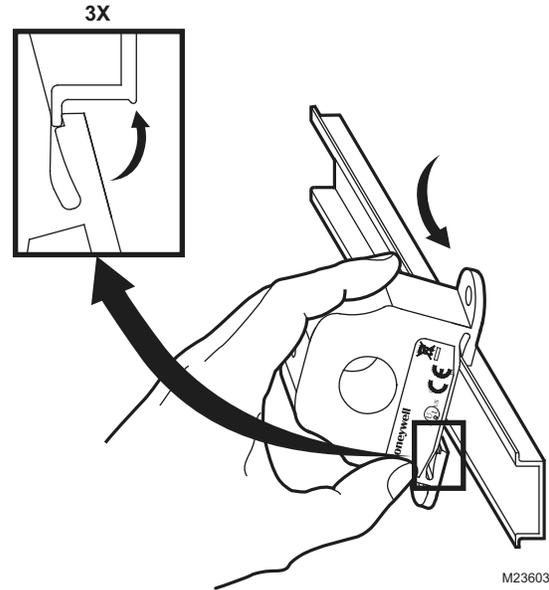

Fig. 3. Sensor placed on DIN rail
The current sensors may be mounted in any position using the (2) #8 x 3/4 in. (19 mm) Tek screws and the mounting holes in the base or snapped directly on to the 1-3/8 in. (35 mm) DIN rail (See Figures 3 and 4). Leave a minimum distance of 1 in. (25 mm) between the current sensor and any other magnetic devices such as contactors and transformers.